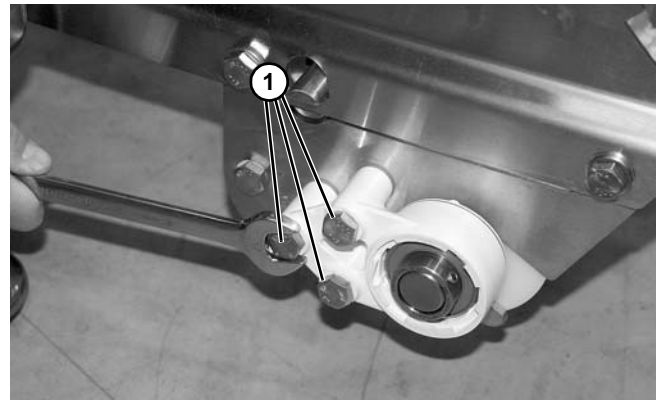

Figure 73
13. Remove three screws (**Figure 73, item 1**) securing bearing housing onto conveyor frame.